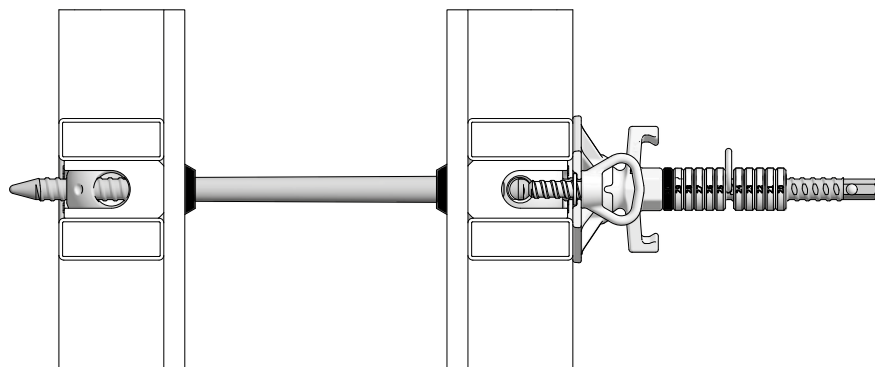

Fig. 16.2
- Single-sided tying with XT taper tie 20 (Fig. 16.2) or 23 without plastic tube